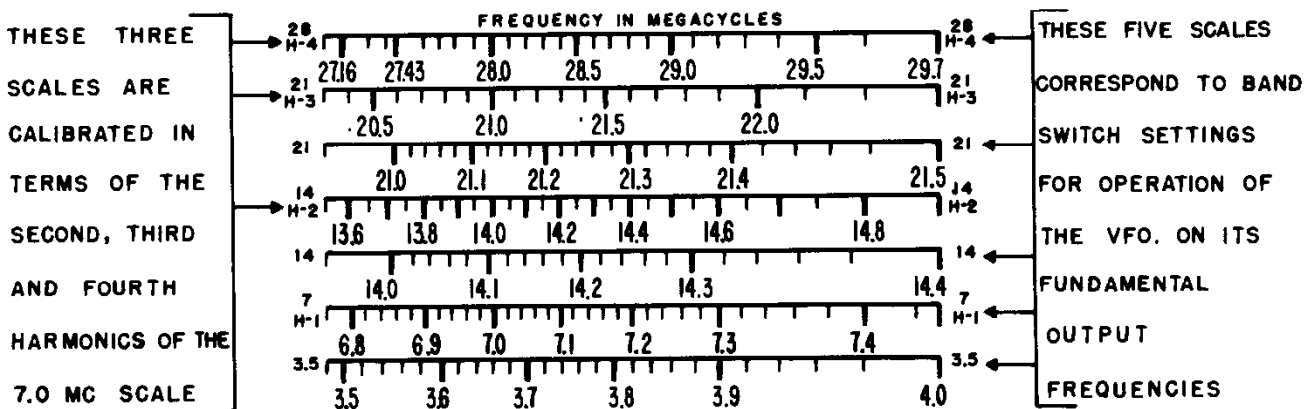

Figure 4. Dial scale calibrations
*V.F.O. Operation* - Set OPERATION switch at M.O., BAND SELECTOR control for the band of frequencies required to obtain the desired output frequency from the final amplifier stage of transmitter being driven by the HT-18. For example, if a doubler stage follows the HT-18 unit, then the HT-18 output will have to be one-half the frequency of the final amplifier stage, etc. Referring to Fig. 4, you will note that there are five calibrated scales showing the output frequency of the V.F.O. unit. These five scales indicate carrier frequency when the transmitter being driven does not have a frequency multiplier stage. In addition to the five fundamental scales, there are three scales which are multiples of the 6.8 to 7.4 mc. scale. The harmonic scales indicate carrier frequency only when the output of the HT-18 is in the 6.8 to 7.4 mc. band. When the transmitter being driven has a doubler stage use the H-2 scale, a tripler stage use the H-3 scale, or a quadrupler or two doubler stages use the H-4 scale. To set the V.F.O. unit to the receiver frequency, set the CHECK switch handle at